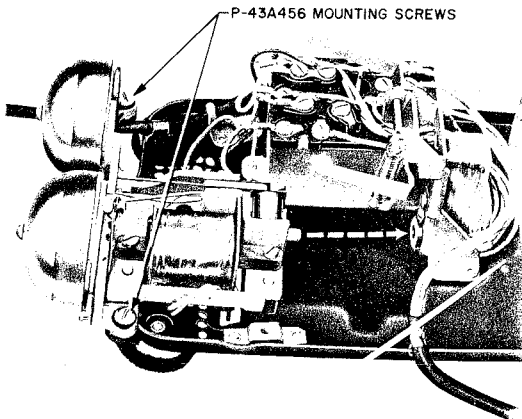

Fig. 21 — 500-Type Set, Ringer Assembly
(1) Two washer head mounting screws placed through rubber grommets hold the ringer on base of set (see Fig. 21).